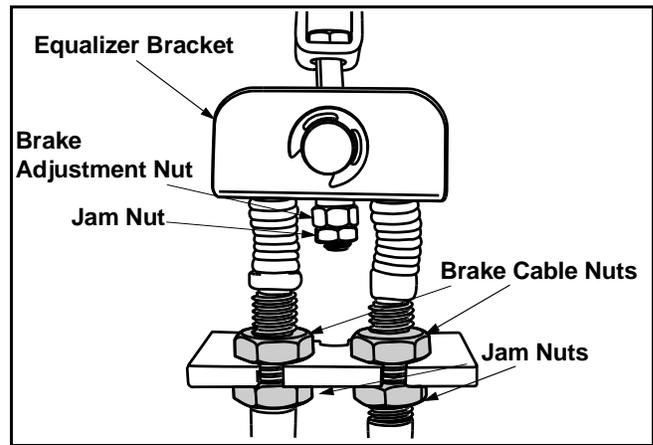

Figure 20
- Check to see if the equalizer bracket is in a horizontal position. If not, loosen the jam nut and tighten or loosen brake adjustment nut until satisfactory brake performance is obtained and equalizer is level. See Figure 20.
- If this minor adjustment does not achieve satisfactory brake performance, loosen brake cable and jam nuts and adjust until desired brake performance is attained, again making sure to keep equalizer horizontal. See Figure 20.